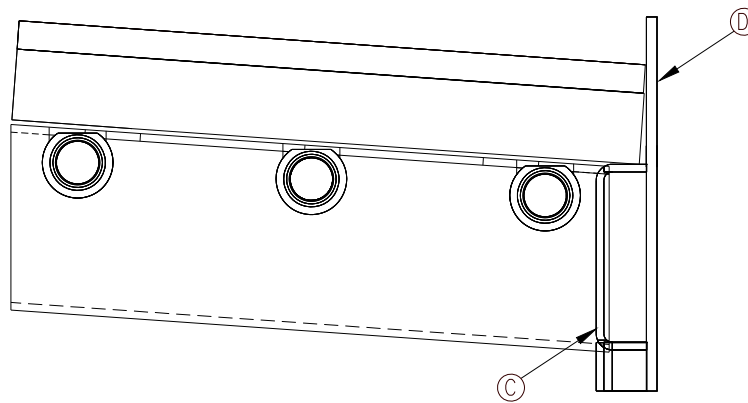

Figure 4.4b
2. Put them on the horizontal air duct (C) (see figure 4.4b). Afterwards, push them towards the bottom and sides so that they rest on the back of the firebox (D) and on the side air ducts.